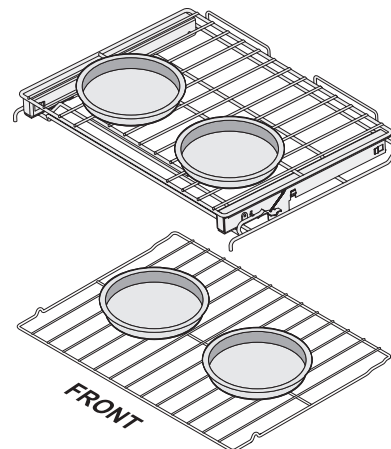

Figure 12: Pan spacing suggestion
- When baking using two oven racks, position cookware as shown in Figure 12. Allow at least 2 inches (5 cm) of space between cookware for proper air circulation.